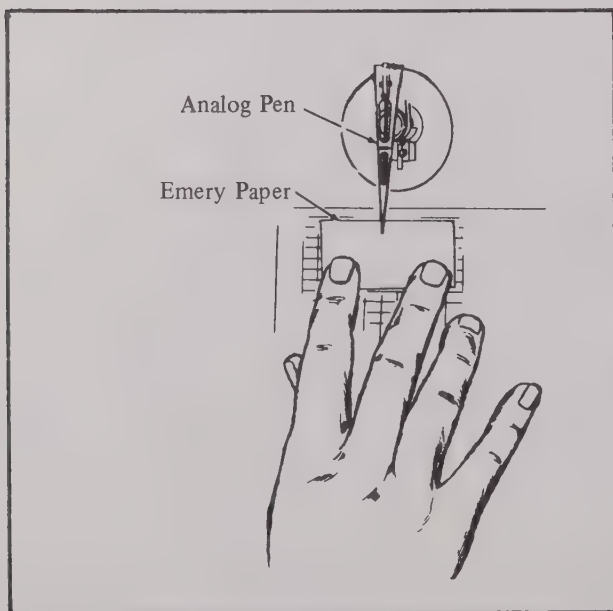

Figure 4.7 Pen Lapping
- a. Carefully raise pen tip just enough to slide a small strip of emery paper (4/0) under pen tip (Gould part number 141119). (See Figure 4.7)